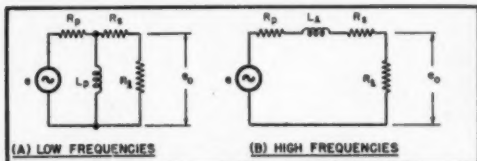

Fig. 1. Simplified equivalent circuits of output transformers at low frequencies (A), and at high frequencies (B).
Figure 1 shows the simplified equivalent circuits of an output transformer at low and at high frequencies. At (A), for example, the value of the primary inductance L_p is chosen by the designer so as to make the output e_o at a frequency f_L 3 db below its mid-frequency value when a load R_L is connected to the output. If the transformer is manipulated by mismatching so as to make R_L smaller, the frequency at which L_p will produce this same loss in output is re-
Just the opposite is true for the high-frequency end. Diagram (B) in Fig. 1 shows that as R_L is decreased, more and more of the voltage is developed across the leakage inductance L_p and less and less across R_L . Consequently, the high-frequency response is made poorer. The lumped primary resistances R_p and sec-